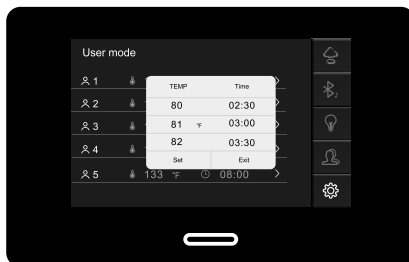

Figure 6
- Press "Set" at the bottom of small window to confirm the setting. (Figure 6)